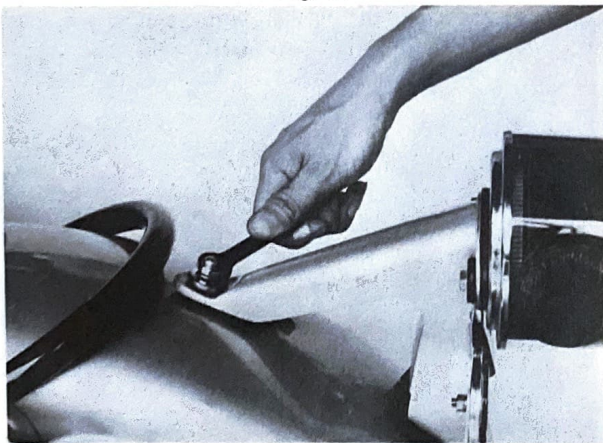

Fig. 38
26. Secure the front part of the license bracket using the bolt washer with cover, fender mounting collar. (Fig. 38)